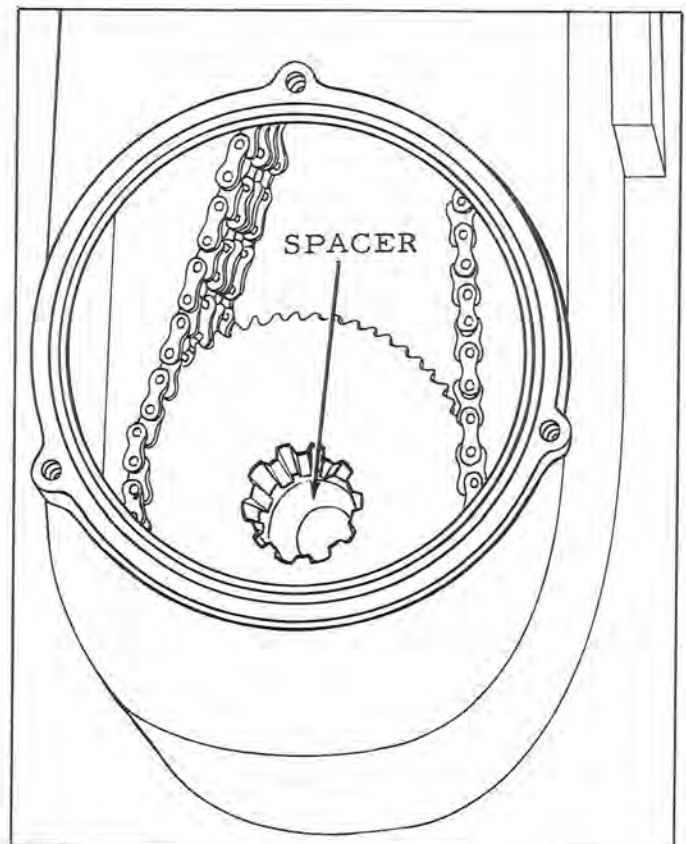

Figure 5
15. When replacing the drive shaft into the gear case, align the large sprocket and the spacer behind it with your finger before inserting the drive shaft (See Figure 5). Insert shaft and align notches on the end of the drive shaft with those on the sprocket in the gear case.